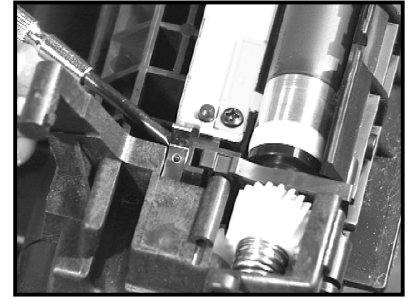
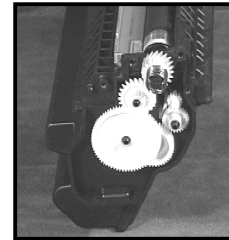

Figure 5
Figure 6
3. **Gently** lift the magnetic roller contact arm off the post and remove the gear gear cover (fig. 5). Do not remove or pull on the two small gears located at the back; this will cause the toner agitator rods to fall into the hopper (fig. 6).
- Carefully install the OPC and replace the drum axle shaft through the opening in the OPC drive gear. **Note:** The knurled end of the shaft enters housing last. Replace the white ring on the non-knurled end of shaft (fig. 5).